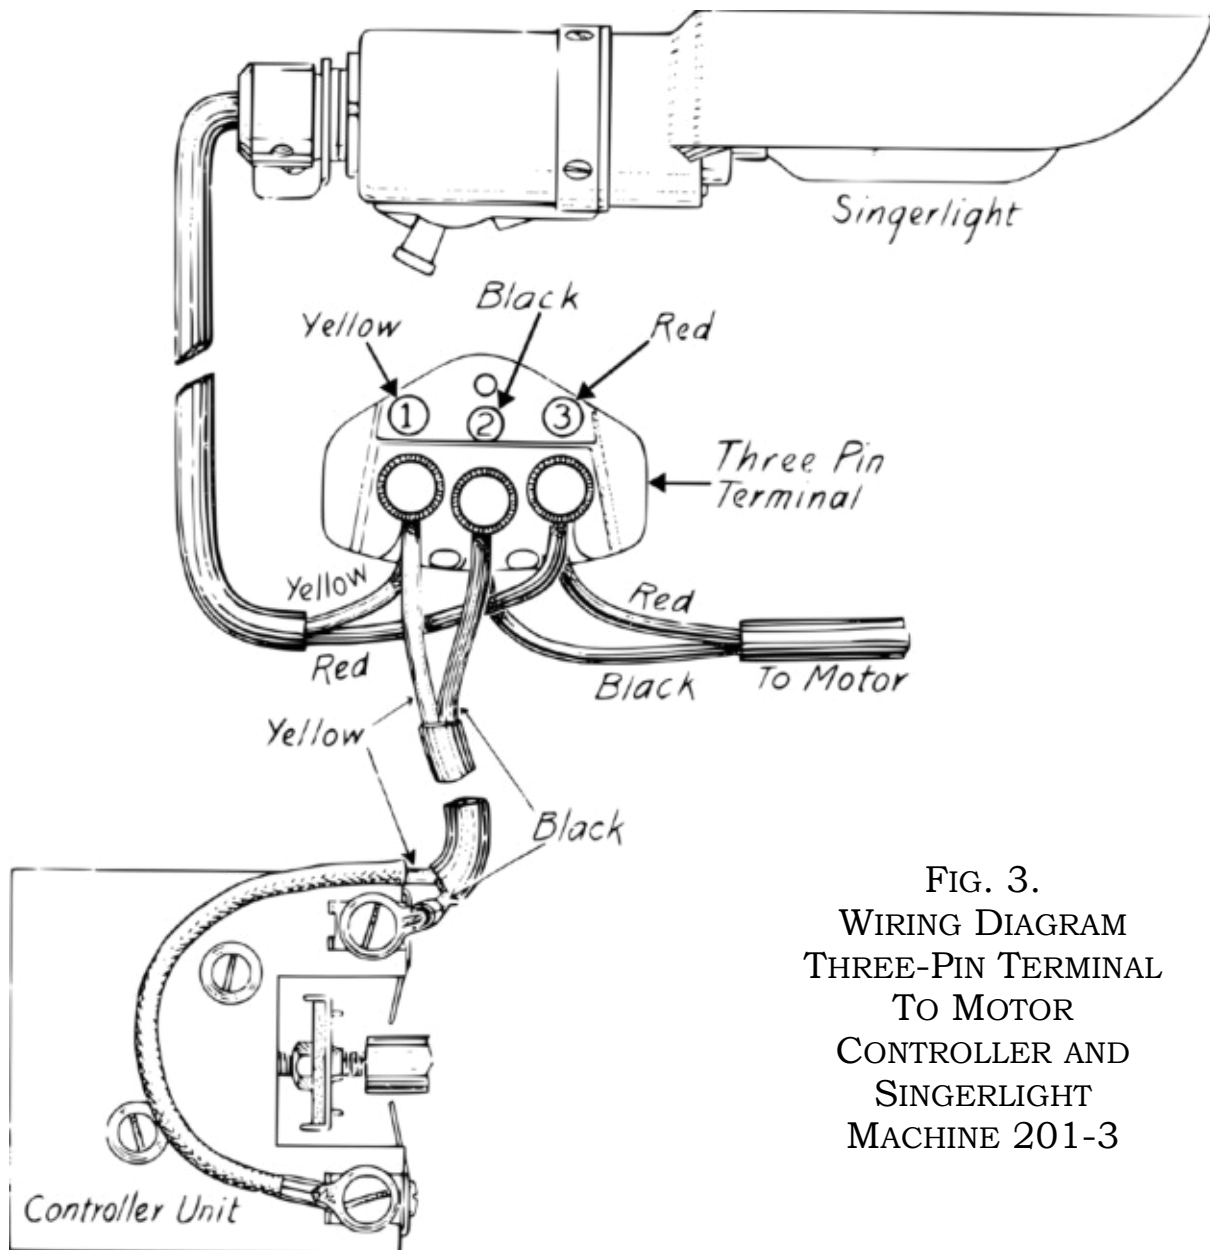

FIG. 3.
(SEE FIG. 3, WIRING DIAGRAM)
**Motor Leads**—Fasten the lead with the **red** identification tubing to the **red** pin No. 3, and fasten the lead the lead without identification tubing to the middle pin No. 2, as illustrated in Fig. 3.